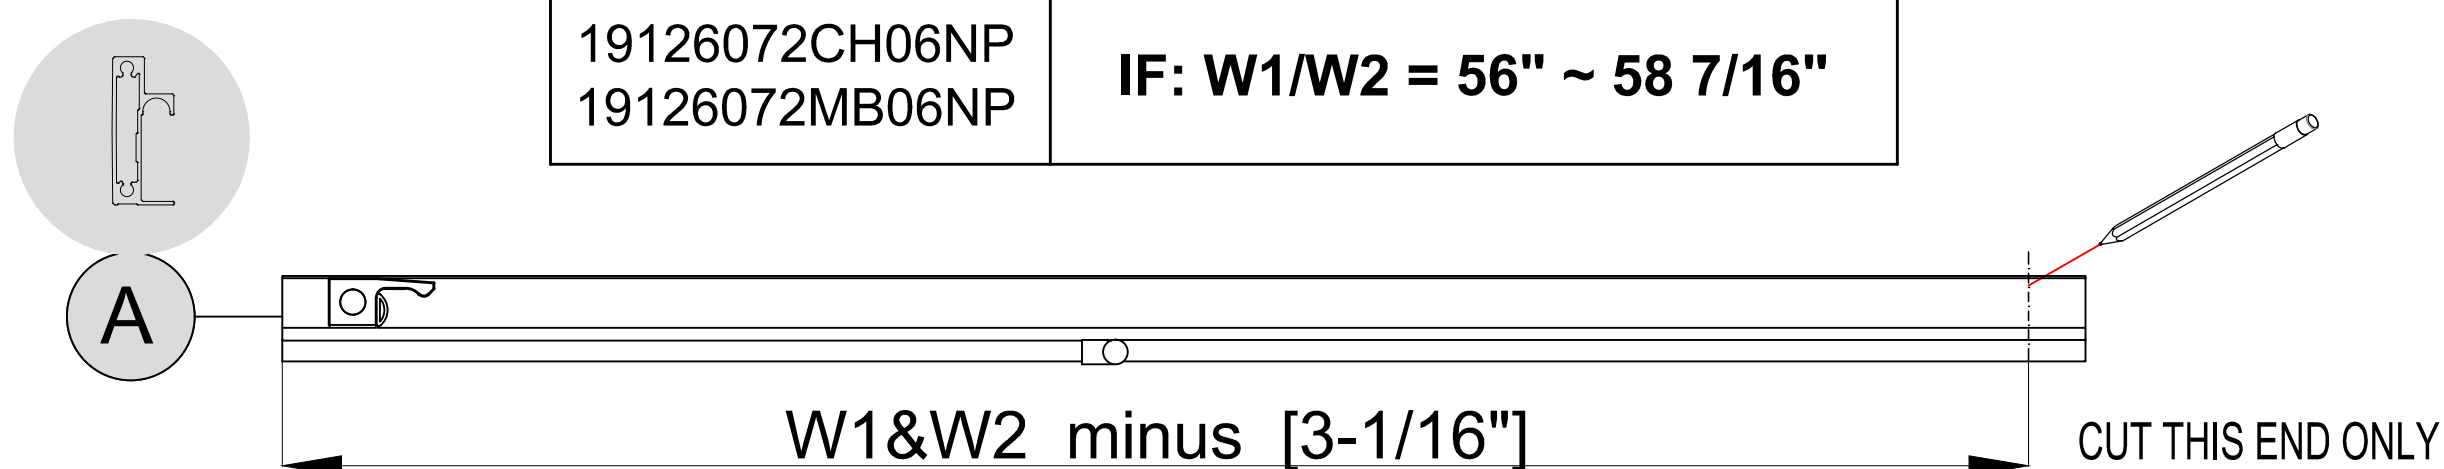

Fig.2
| Model No. | Top and bottom Rail need to cut as Fig.2&Fig.3 |
1. Using a pencil or another marking tool , mark distance on the Top and bottom Rail (A) from the edge of the Top and bottom Rail (A) as shown in Fig.2.
2. Cut the Top and bottom Rail (A) to: "W1&W2" dimension minus [3-1/16"]